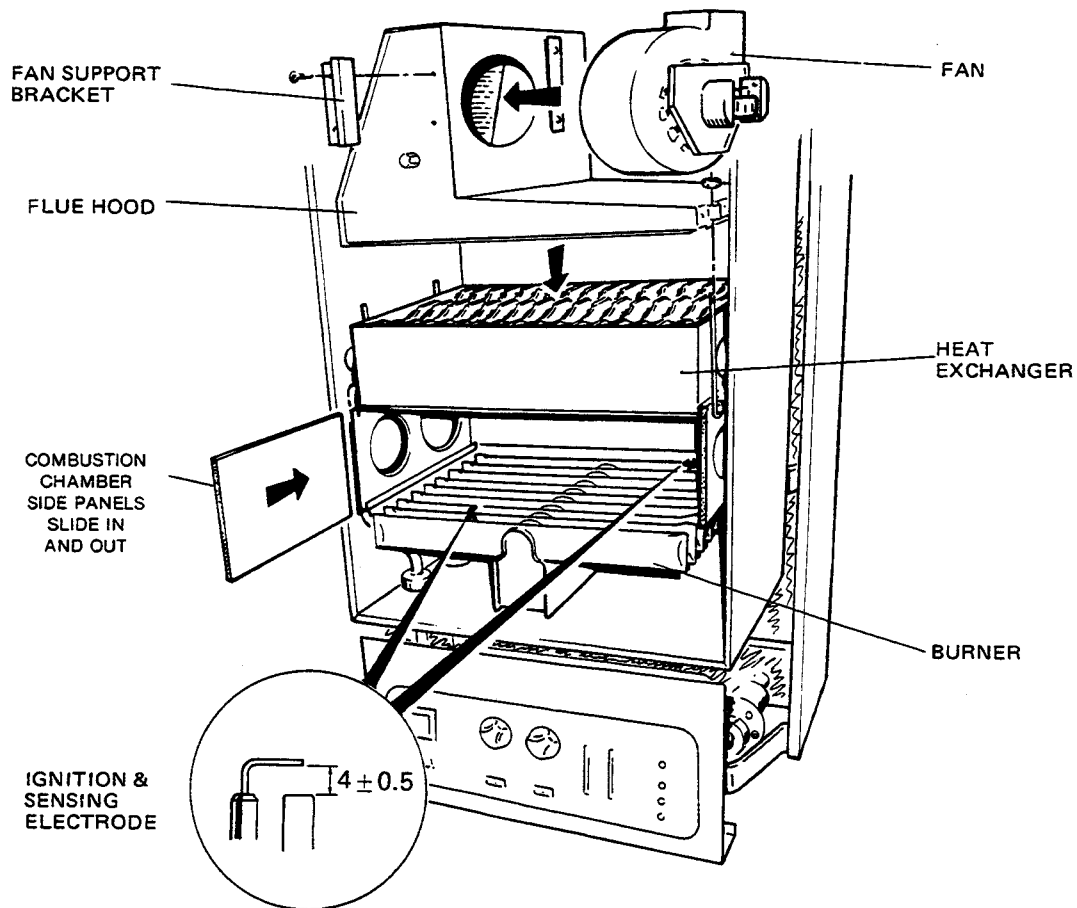

FIG. 32
(See Fig. 32)
- e) Inspect the main burner and remove any deposits with a soft brush. Check the electrodes for damage or deterioration, clean or renew as necessary. Ensure that the spark gaps are correct to dimensions specified in Fig. 32.
15. IGNITION AND SENSING ELECTRODE (see Fig. 32)
17. MAIN BURNER (see Fig. 32)